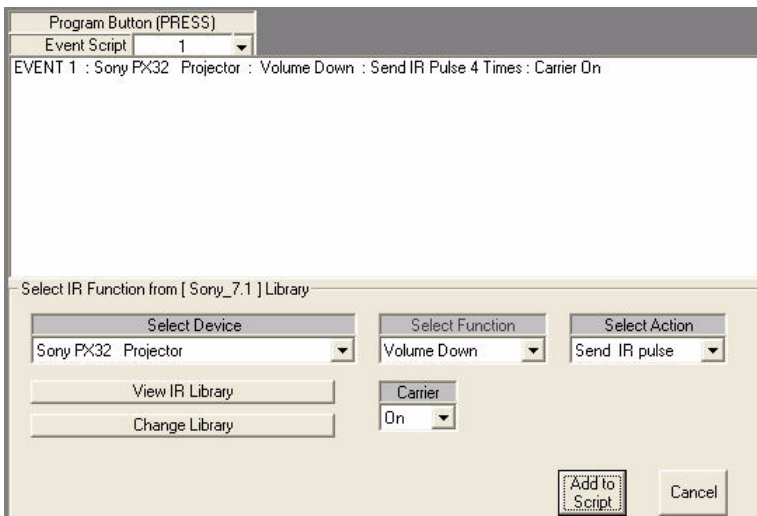

FIG. 102 Button 1 - Add Sony PX32 Projector "Volume Down" Command to Script
- Choose the "Volume Down" command (in the *Select Function* drop-down menu) and click **Add To Script** to add it to the Event Script (FIG. 102):